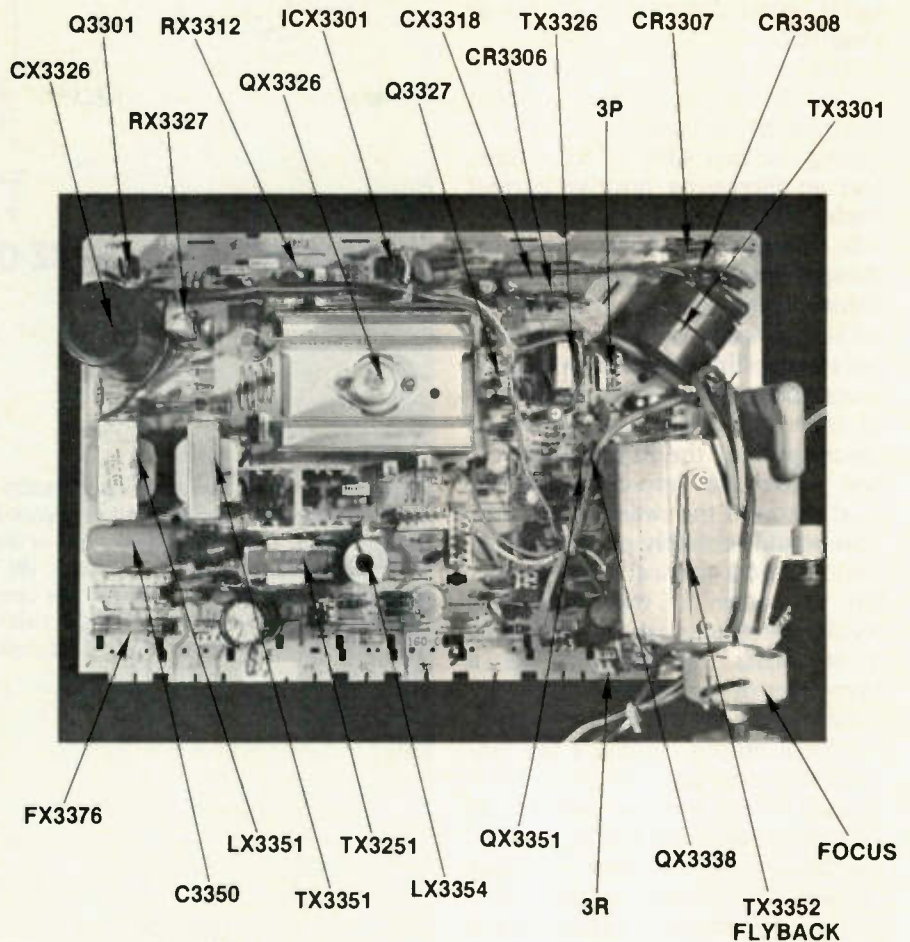

Figure 3 Arrows point to many important components on the Zenith M10 module.
**Figure 3** The Heathkit Satellite Receiver is an attractive unit that can be placed on top of most TV receivers. Output of the Satellite Receiver goes to the antenna terminals of a standard TV receiver. The unit is larger than some videocassette tape recorders, and features many new technical conveniences such as direct-access electronic tuning with remote control.
- The satellite-TV receiver kit (Figure 3) has a Scientific-Atlanta UHF receiver section, Heath electronics, and a Zenith Space-Command wireless remote control to provide 24-channel synthesized electronic tuning. A memory allows instant switching between any two preselected channels. A keypad on the receiver panel allows direct access, as does the remote unit.
Arrows and call-outs in Figure 3 show locations of important components on the M10 module.